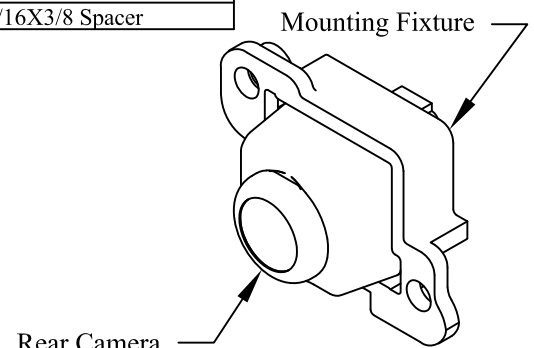

Figure 2: Rear camera in factory mounting fixture.
- 2. Remove** and **Save** the rear camera and wire harness from the tailgate. Leave the camera attached to its mounting fixture (Figure 2).